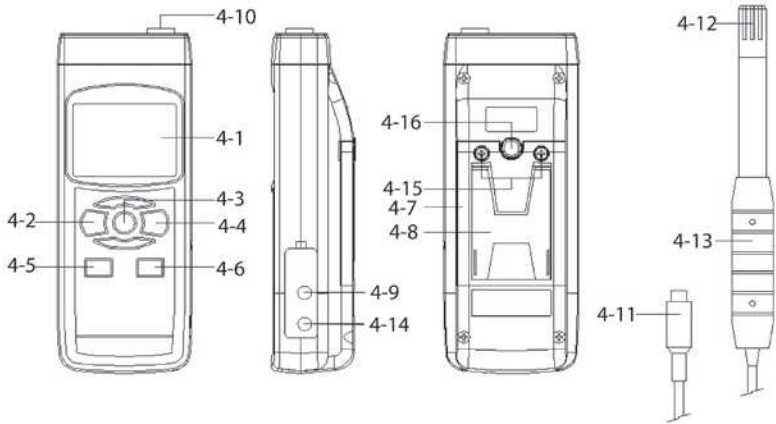

Fig. 1
1. Plug the “Probe Plug” (4-11, Fig. 1) into the “Probe Input Socket” (4-10, Fig. 1).
2. Power on the meter by pressing the “Power Button” (4-2, Fig. 1) for 2 seconds. The LCD will show the units of measure on the display after a quick self test. It will display the %RH in the main display and temperature in the bottom section of the LCD.
To measure DEW Point follow the instructions shown in section 4-3 and then press the “Function Button” (4-5, Fig. 1) momentarily once. The LCD will show the word DEW in the main display and temperature below.
While taking measurements you can freeze the displayed value by pressing the “Hold Button” (4-3, Fig. 1) once. The HOLD symbol will be displayed along with the held measured value on the LCD. By pressing the “Hold Button” (4-3, Fig. 1) a second time will release the displayed value and turn off the data hold function.
1. To record the maximum and minimum readings, press the “REC Button” (4-4, Fig. 1). The REC symbol will be displayed on the LCD. By pressing the “REC Button” (4-4, Fig. 1) you can toggle through the Max and Min values.
2. To delete the recorded values press and hold the “Hold Button” (4-3, Fig. 1) for about 3 seconds.
3. To stop using the REC function, press and hold the “REC Button” (4-4, Fig. 1) for at least 3 seconds.
1. Press and hold the “SET Button” (4-6, Fig. 1) for about 3 seconds to enter the settings menu (you will see the word code on the bottom of the LCD).
2. Pressing the “Enter Button” (4-4, Fig. 1) will bring you to the unit of measure for temperature (see section 5-1 if you wish to change the unit of measure).
3. Press the “Logger Button” (4-6, Fig. 1) and SEC will be displayed on the bottom of the LCD.
4. To cycle through the number of seconds you would like meter to wait between loggings, press the “Function Button” (4-5, Fig. 1). By pressing the “Function Button” (4-5, Fig. 1) the following number of seconds will be displayed on the top of the LCD: 1, 2, 10, 30, 60, 600, 1800 or 3600.
5. Once the number seconds you require is displayed on the LCD, press the “Logger Button” (4-6, Fig. 1).
6. Press the “Enter Button” (4-4, Fig. 1) to exit the settings menu, then press the “ESC Button” (4-3, Fig. 1).
7. Press the “REC Button” (4-4, Fig.1) momentarily to start the data log function. The REC symbol will be displayed on the LCD. The data logger function can save up to 1000 values of measure (either Humidity & Temp. or Dew Point & Temp).
8. Press the “Logger Button” (4-6, Fig.1) and the meter will start logging. You will see the A flashing on the top of the LCD every time a logging event has occurred. The A flashing will match the number of seconds you set in the setup of the data logger function.
1. Press the “REC Button” (4-4, Fig.1) momentarily to start the data log function. The REC symbol will be displayed on the LCD. The data logger function can save up to 1000 values of measure (either Humidity & Temp. or Dew Point & Temp).
2. Press the “Logger Button” (4-6, Fig.1) every time you would like the meter to record a value. You will see an A flash in the top of the LCD. The meter will not record another measurement until you press the “Logger Button” (4-6, Fig.1) again.
1. Press and hold the "SET Button" (4-6, Fig. 1) for about 3 seconds until the LCD displays "Code". Once you release the button you should see 1000 in the main display. 1000 is the password code to allow advanced measuring procedures. To leave the setting menu press the "ESC Button" (4-3, Fig.1).
2. Press the "Enter Button" (4-4, Fig. 1).
4. Now you are in the setting area to set or change the temperature unit of measure. Pressing the "Set Button" (4-6, Fig. 1) will cycle through the following setting sections:
1. Press and hold the "Set Button" (4-6, Fig. 1) for about 3 seconds until you see the word "COde" in the bottom of the LCD.
2. Press the "Enter Button" (4-4, Fig. 1). Now you may select between °C & °F by pressing the "Function Button" (4-5, Fig. 1). When a "0" is in the main LCD the unit will display temperature in °C. When a "1" is in the main LCD then the unit will display temperature in °F.
1. Press and hold the "Set Button" (4-6, Fig.1) for more than 3 seconds.
2. The main LCD should then display 1000. Now press the "Enter Button" (4-4, Fig. 1)
3. Now press the "Set Button" (4-6, Fig.1). You will see SEC in the bottom left of the LCD.
4. Use the "Function Button" (4-6, Fig. 1) to cycle through the available seconds settings. Stop on either 0, 1, 2, 10, 30, 60, 600, 1800 or 3600. The value you select will tell the meter how often to log an event. Note that 0 SEC can only be used in the manual logging function.
5. Press the "Enter Button" (4-4, Fig.1) to confirm your selection and save it to the meters memory.
6. Press the "ESC Button" (4-3, Fig.1) to go to the normal measurement mode.
1. Press and hold the "Set Button" (4-6, Fig.1) for about 3 seconds.
3. Press the "Set Button" (4-6, Fig.1) twice and you will see the Cnt marker in the bottom of the LCD. The top number is the number of available data points.